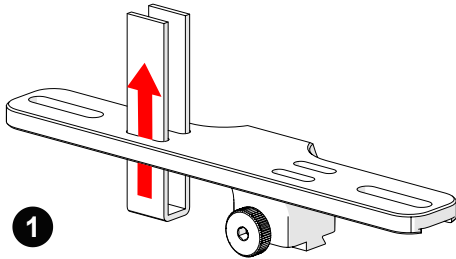

Fig. 73 - Insert velcro straps
1. Slide the velcro strap through the bracket's holes (Fig. 73).